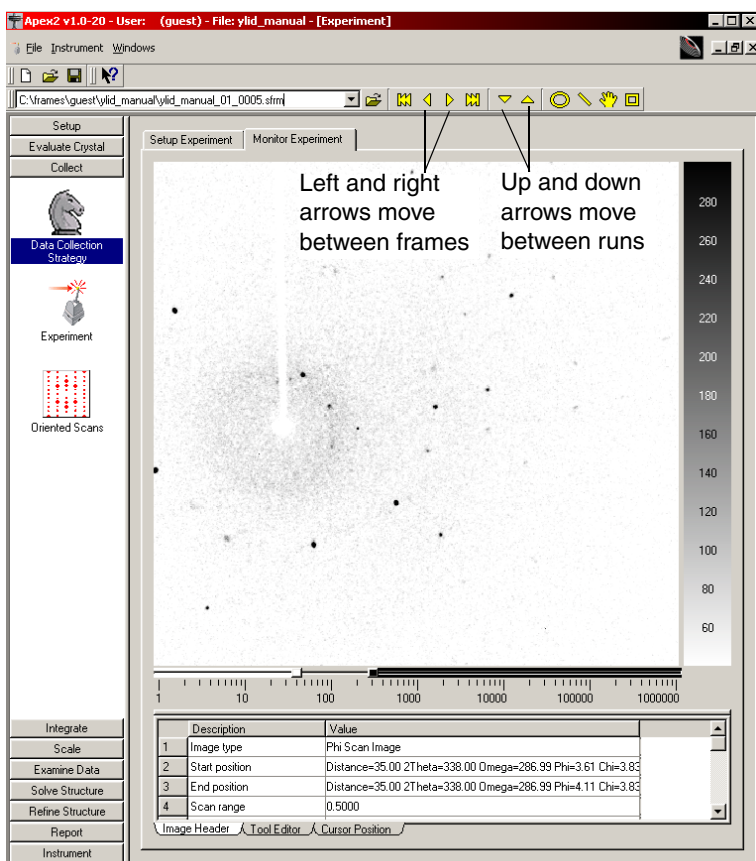

Figure 6.5 - Monitor Experiment view
2. Click on Execute/Resume. The view will shift to the Monitor Experiment view (see Figure 6.5). The program will collect a series of three runs with twelve frames per run. This typically takes less than ten minutes. The images will stop changing when the experiment is done.
**NOTE:** The format for frame names is shown in Figure 6.5. Every frame is assigned a name. For this figure the name is ylid\_manual\_01\_005.sfrm. This means that the